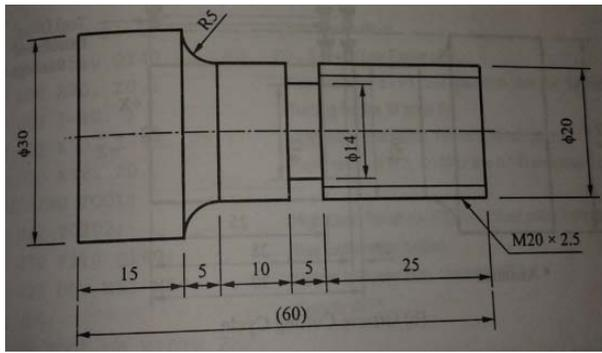

Fig.1
- (b) Develop a program using appropriate G and M codes to turn a MS bar of size and shape as shown in Fig.1. Use various canned cycles for roughing, grooving and threading operation. Assume suitable data for speed, feed and depth of cut. The raw material size is  $\phi$  30\*60 bar. **07**